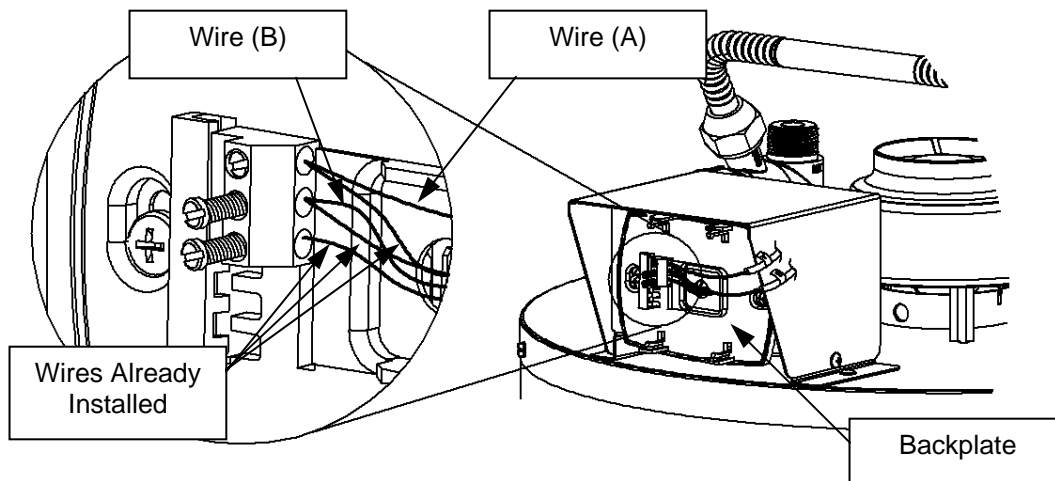

Figure 16
Step 10: Using wire (B), insert one end into the middle terminal location on the backplate (located on the Setback Control Junction Box Assembly). This is shown in Figure 16. Be sure that the wire already located in this location is not dislodged.